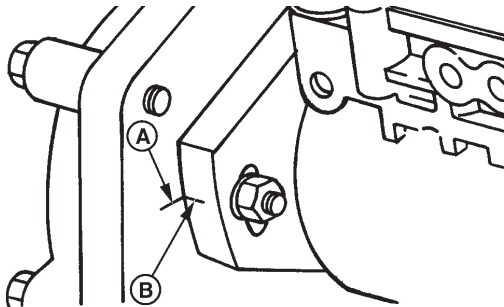

Figure 20 Reproduced by permission of Deere & Company, c.2004. Deere & Company. All rights reserved.
9. Check to make sure that timing marks on back side of front plate (Figure 20-A) and injection pump flange (Figure 20-B) are present and properly aligned. This assures that repaired or replacement pump can be properly timed to engine when installed.
IMPORTANT: Injection pump mounting flange timing mark (Figure 20-A) and front plate timing mark (Figure 20-B) presence and alignment **MUST** be verified before removing pumps from engine. **DO NOT** reference internal timing marks (on pump cam ring and governor weight retainer). If timing mark is not clearly visible on front plate, make a visible reference mark as accurately as possible in-line with mark on pump flange.